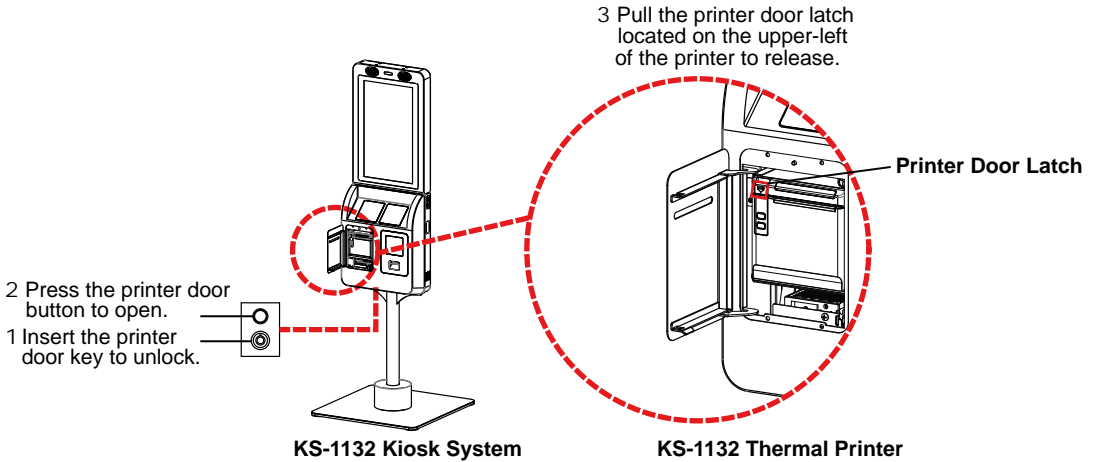

Figure 2-3. Open the KS-1132 Printer Door
Step 3. Pull the internal printer door latch located on the upper-left corner of the printer to release. See Figure 2-3.